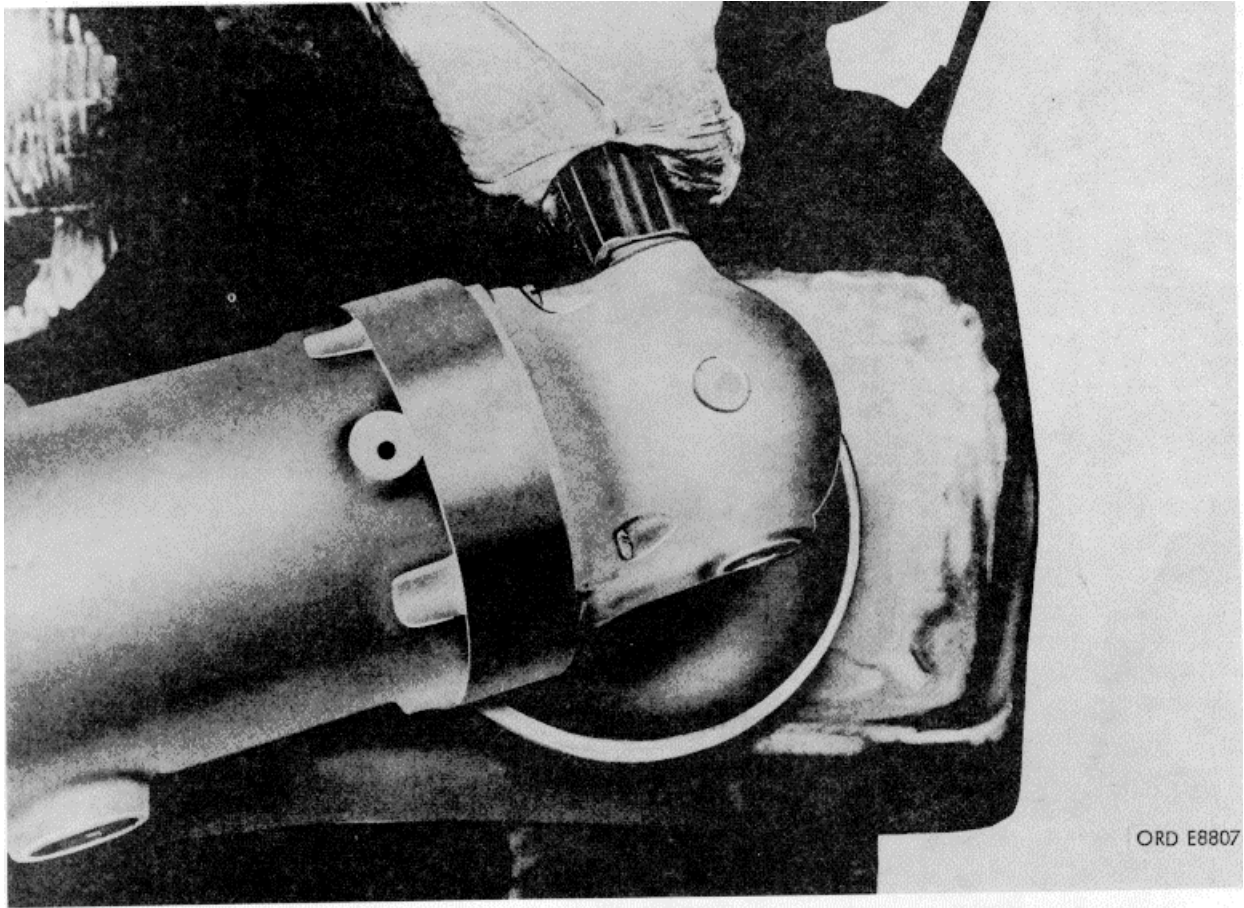

Figure 10. Disc grinder cough finishing repair area.
9. Rough Finish After Curing. Rough finish repaired area to metal contour using either an 9-tooth vixen blade body file or disc grinder (fig. 10) with 60 grit abrasive.